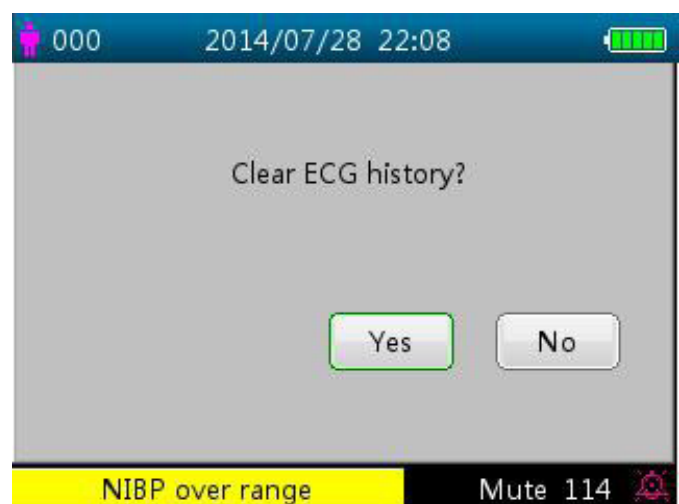

Figure 4.5 Delete ECG history
- Long pressing OK  key, then a dialog of deleting records pops up, as shown in figure 4.5, the user can delete all history ECG waveform data according to prompt.